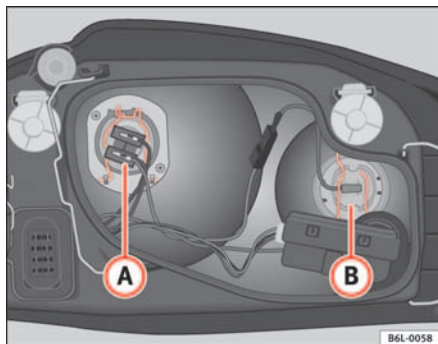

Fig. 143 Main beam lamp
- Remove the lamp cable connector (B) ⇒ fig. 143.